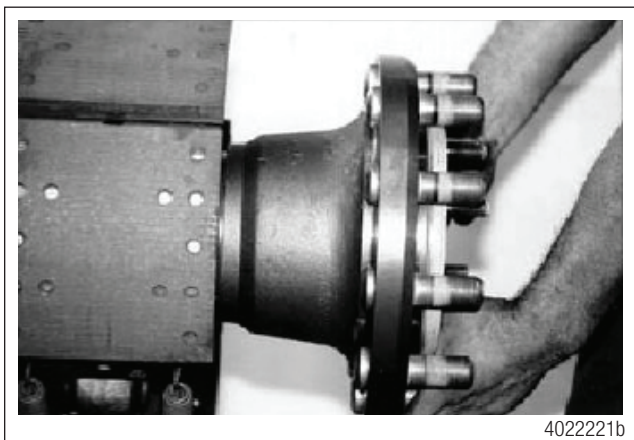

Figure 38
2. Grasping the outer part of the hub at the 12 and 6 o'clock positions, push the hub straight on to the spindle. If difficulty is encountered, try rocking the hub slightly to free the inner bearing. Figure 38.